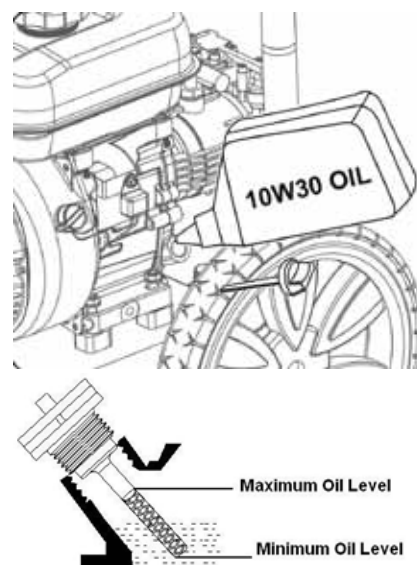

Fig. 7B
To add oil, follow these steps: (Fig. 7B)
2. Remove the dipstick from the engine. (Fig. 7B)